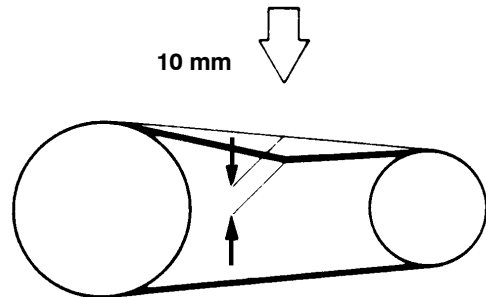

Fig. 43 Checking V-belt tension
- The best tension for a belt drive is the lowest possible, where the belt under full load does not slip. A rough value for this is when the belt deflects **10 mm** when pressed with thumb pressure between the two pulleys (Fig. 43). For best results we recommend our v-belt tension meter, part no. N25238.
- Adjust motor until the belt tension is correct (see Fig. 43).